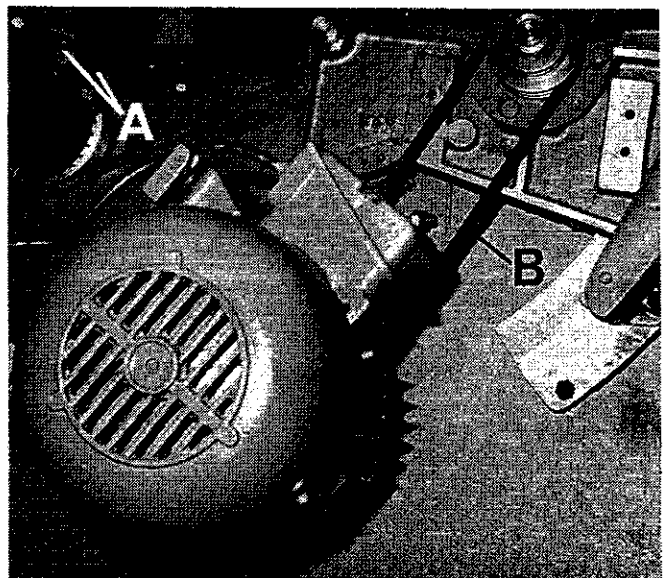

FIG. 40.
9. Loosen the 4-M6 scoring motor mounting screws "A", FIG.40, and move motor to remove belt "B".
12. When belt is correctly tensioned, re-tighten the 4-M6 motor mounting screws "A", FIG.40.